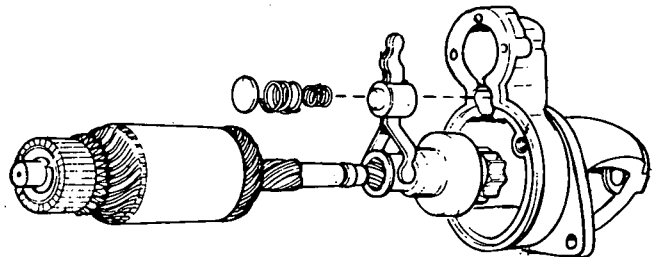

FIGURE 35. REMOVING ARMATURE
3. The armature can easily be removed from the front bracket. Be careful not to miss a small steel washer used in the end of the armature shaft. The shift lever can be removed along with the armature when it is removed. In this case, the spring holder, lever springs and retainer can be taken out before the lever. See Figure 35.